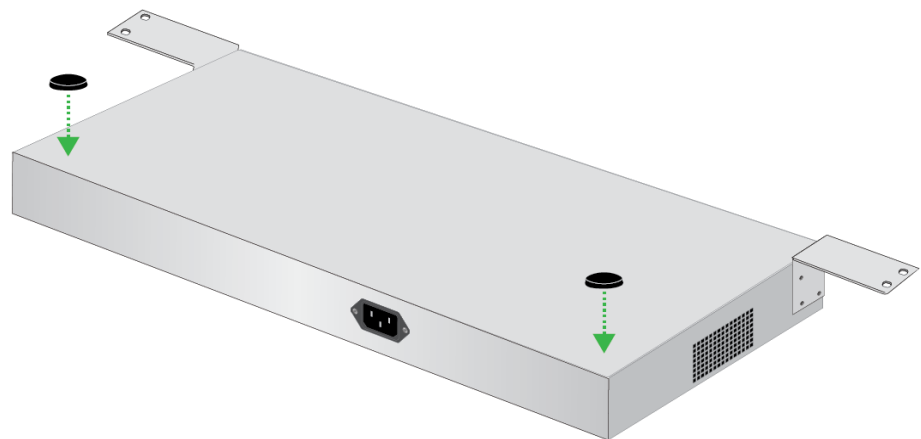

Figure 26. Attaching the Rubber Feet
5. Attach two rubber feet at the corners where the brackets are not installed. See Figure 26.